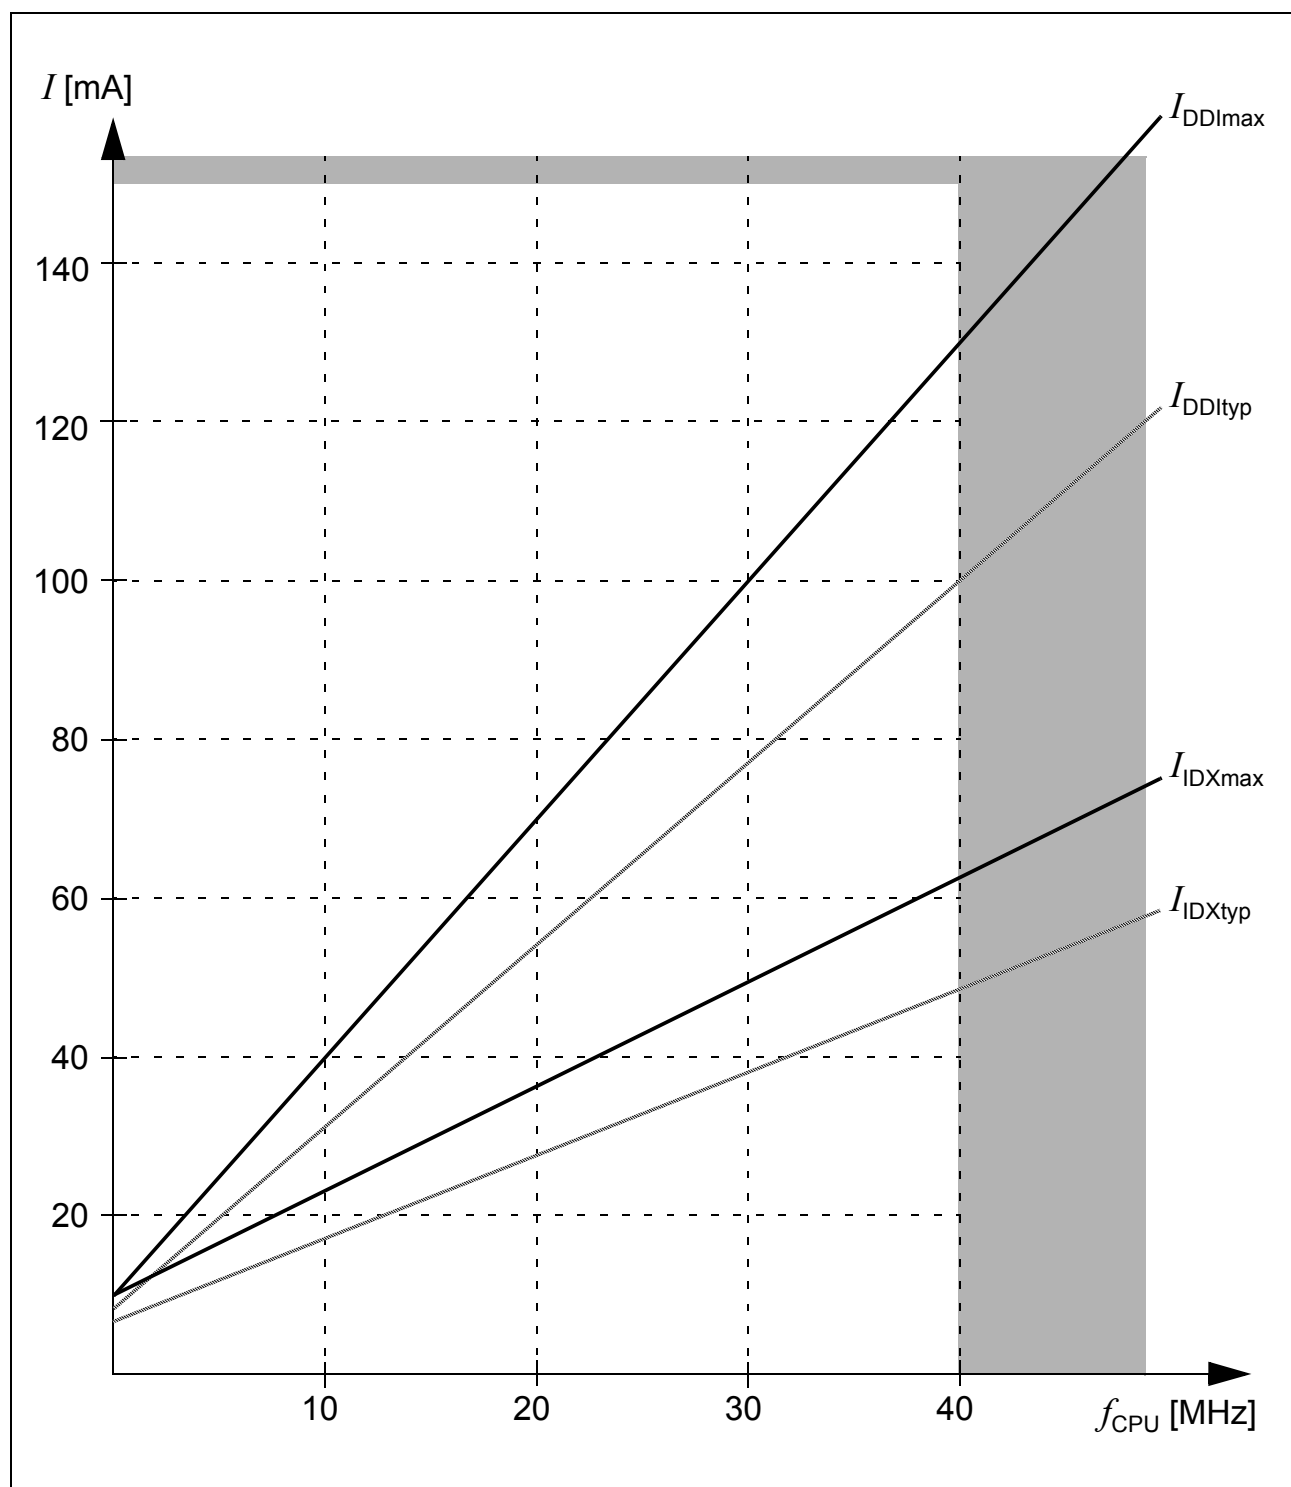

Figure 10 **Supply/Idle Current as a Function of Operating Frequency**
- 2) The supply current is a function of the operating frequency. This dependency is illustrated in Figure 10. These parameters are tested at V_{DDImax} and maximum CPU clock frequency with all outputs disconnected and all inputs at V_{IL} or V_{IH} .